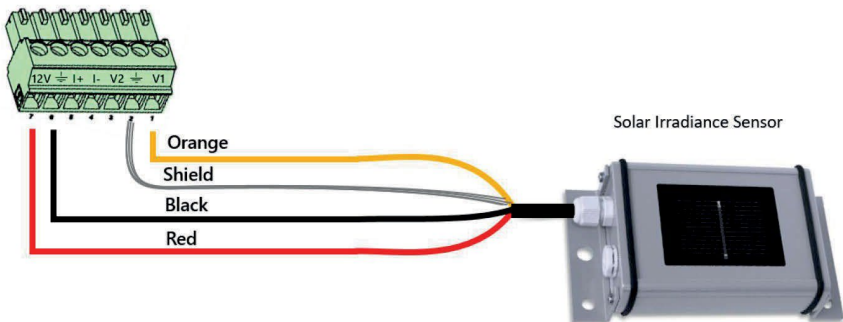

Figure 18: Solar irradiance sensor connection
1. Connect the thin wires to the Commercial Gateway sensors connector as follows (see *Figure 18*):